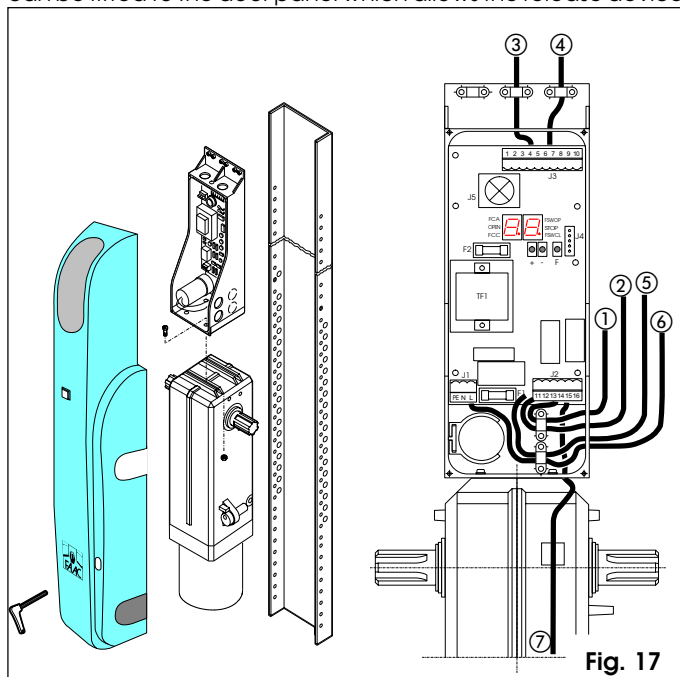

Fig. 17
- With the drive shaft at the top (Fig. 17)